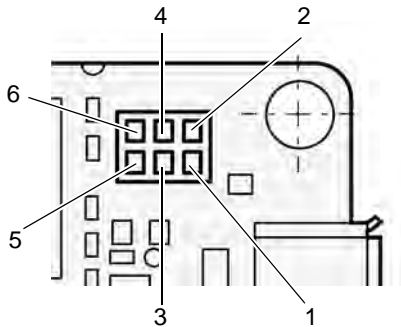

Fig. 19: Pinout for the I/O Connector
The I/O connector on the camera is a 6-pin socket connector with a 1.27-mm pitch dual-row receptacle. It is used to access the physical input and output lines on the camera. The pinout for the I/O connector is as shown in Figure 19.
The camera has two direct-coupled GPIO lines that are accessed via contact 3 and 4 of the I/O connector on the back of the board (see Figure 19).
- are designated as line 1 and line 2 (see Figure 19).